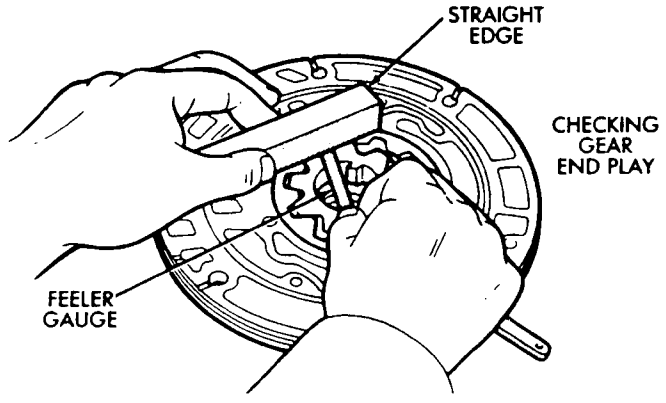

Fig. 3 Checking Pump Gear Clearances
(1) Check operation of one-way clutch in clutch drum. Hold drum and turn planetary shaft clockwise and counterclockwise. Shaft should turn clockwise freely but lock when turned counterclockwise. Replace one-way clutch if necessary.
(2) Remove overdrive clutch from planetary gear (Fig. 3).